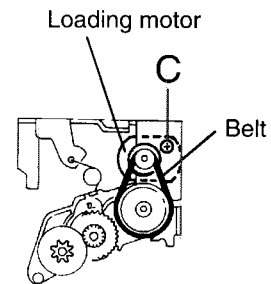

Fig.6
- 1.Remove the belt from the loading motor (See Fig.5and Fig.6)
- 2.Remove the one screw C retaining the loading motor(See Fig.6)